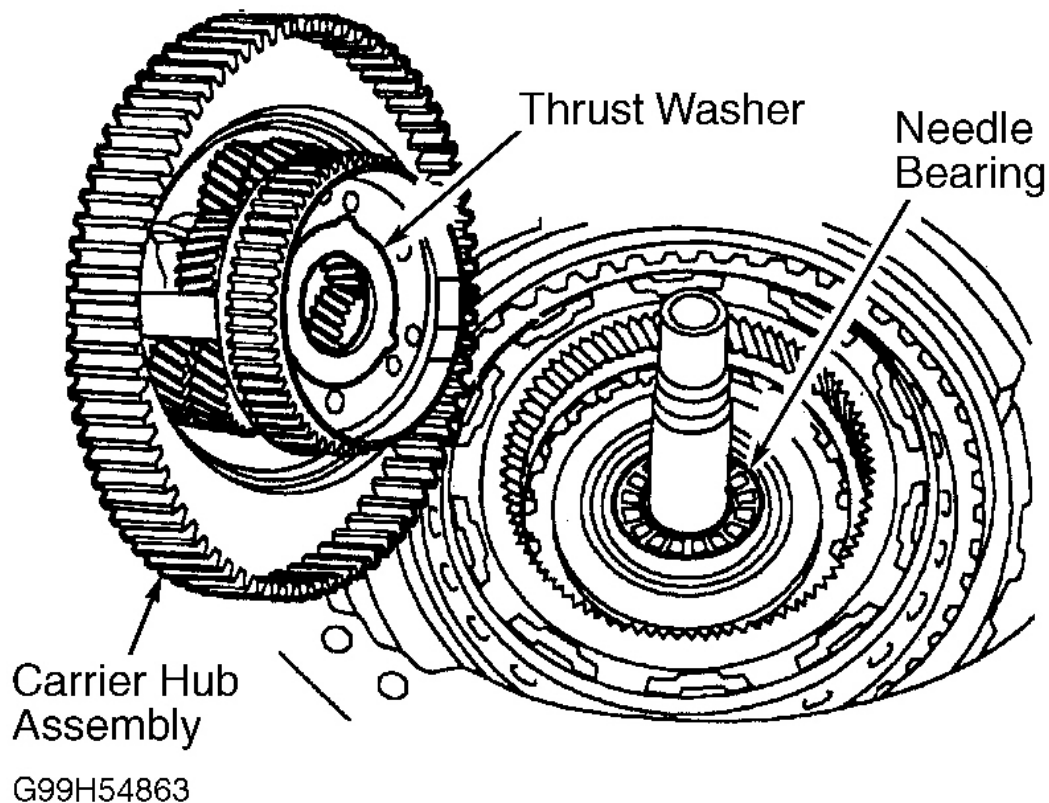

Fig. 41: Installing Carrier Hub Assembly Into 3-4 Clutch
12. Install ring gear with external gear side down, and secure with retaining ring. Install needle bearing and carrier hub assembly into 3-4 clutch cylinder. See **Fig. 41**. Rotate carrier hub to align splines with 3-4 clutch pack. Install low/reverse clutch pack, pressure plate and previously selected retaining ring into transaxle case.